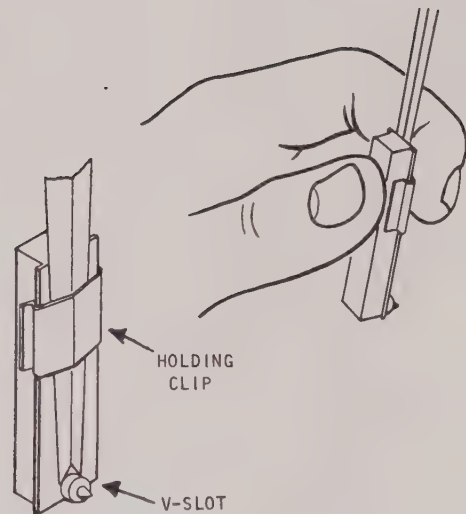

FIGURE 4 FIBER TIP PEN CARTRIDGE
General. Fiber tip pens (figure 4) provide the user with the ease of snap-on disposable cartridges. A fresh supply of ink is obtained each time the cartridge is changed and no cleaning or maintenance is required.
- (1) Remove empty fiber tip pen cartridge by first lifting the flexible pen arm upward slightly from the chart (figure 4).
- (2) Unsnap the holding clip with a fingernail or a small screwdriver.
- (3) Referring to figure 4, carefully remove the holding clip from the cartridge.
- (4) Fit the "vee" slot at the end of the pen arm against the pen tip identified in figure 4.
- (5) While maintaining the cartridge in position, snap the holding clip over the outer ridge of the pen to lock it into place.
Do not allow any cleaning fluid to come in contact with the hygroscopic element shown in figures 4 and 5 as it may be permanently damaged. This element is composed of a laminated wood and metal helix that is extremely susceptible to damage by chemicals. This element should only be cleaned with a dry brush.